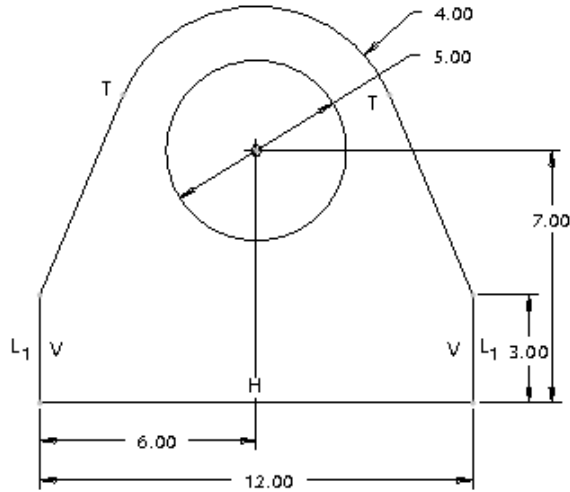

Figure 2-27 The complete sketch with dimensions and constraints
- Dimension the sketch and then modify the dimensions of the sketch, refer to Figure 2-27
5. Modify all dimensions according to the dimensions shown in Figure 2-27. After modifying the dimensions, choose the **Regenerate the section and close the dialog** button from the **Modify Dimensions** dialog box; a message **Dimension modifications successfully completed** is displayed in the message area.
The sketch is completed and is shown in Figure 2-27.